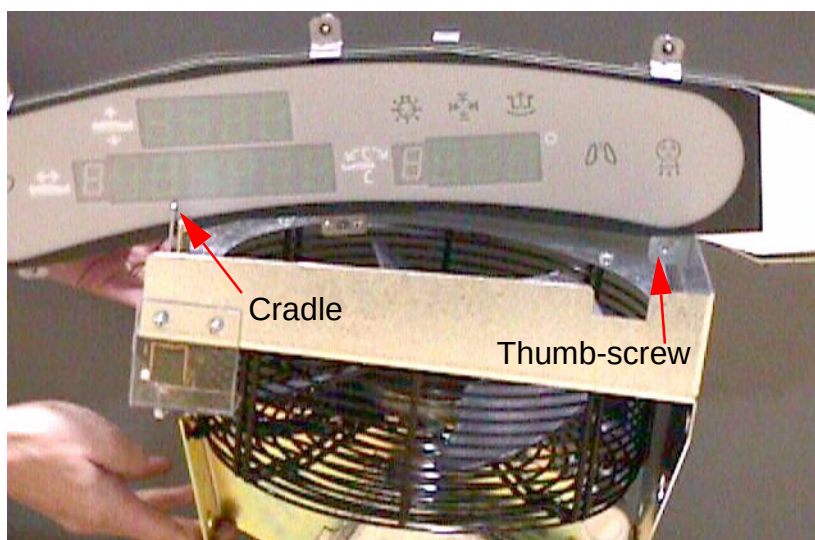

Figure A-17 Gantry Display Service Mounting Location "B"
- * Position "B" place the Display in the cradle across the top of the right Gantry Fan Assembly. Use thumb-screw to secure display on right side. Reference Figure A-17.